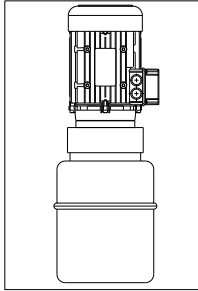

Fig.5 Hydraulic power unit
1.4 HYDRAULIC POWER UNIT (FIG.5)